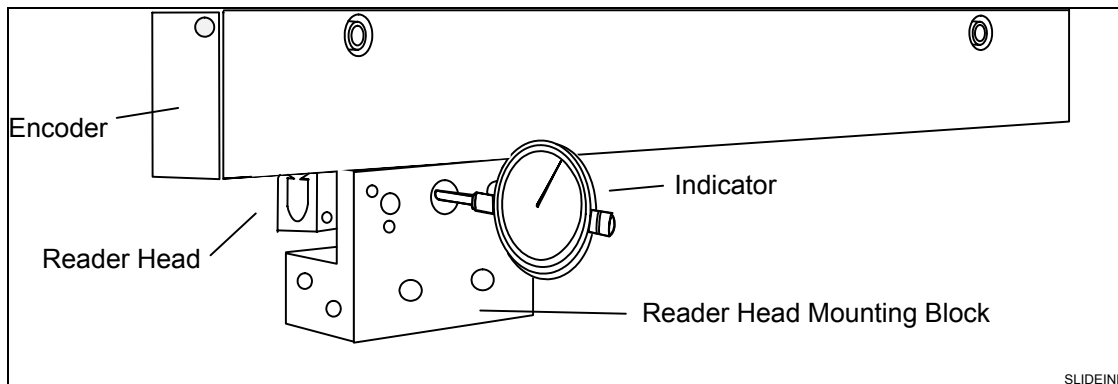

Figure 6, Indicator Setup for Cross Slide Reader Head Alignment
3. Refer to **Figure 6, Indicator Setup for Cross Slide Reader Head Alignment**. Set up an indicator so that the probe measures the position of the front of the reader head. A hole is drilled in the center of the bracket to provide access for the indicator probe.